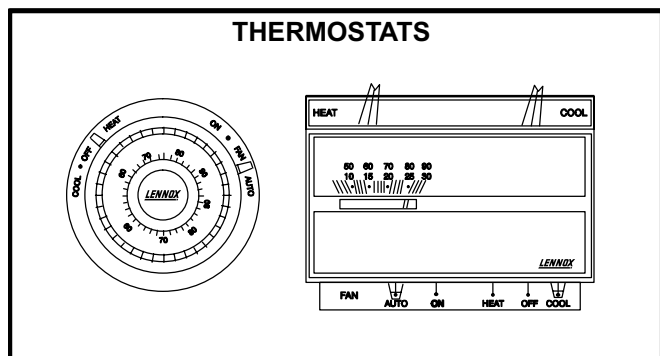

FIGURE 1
- 2 - Set thermostat to the lowest setting. See figure 1.